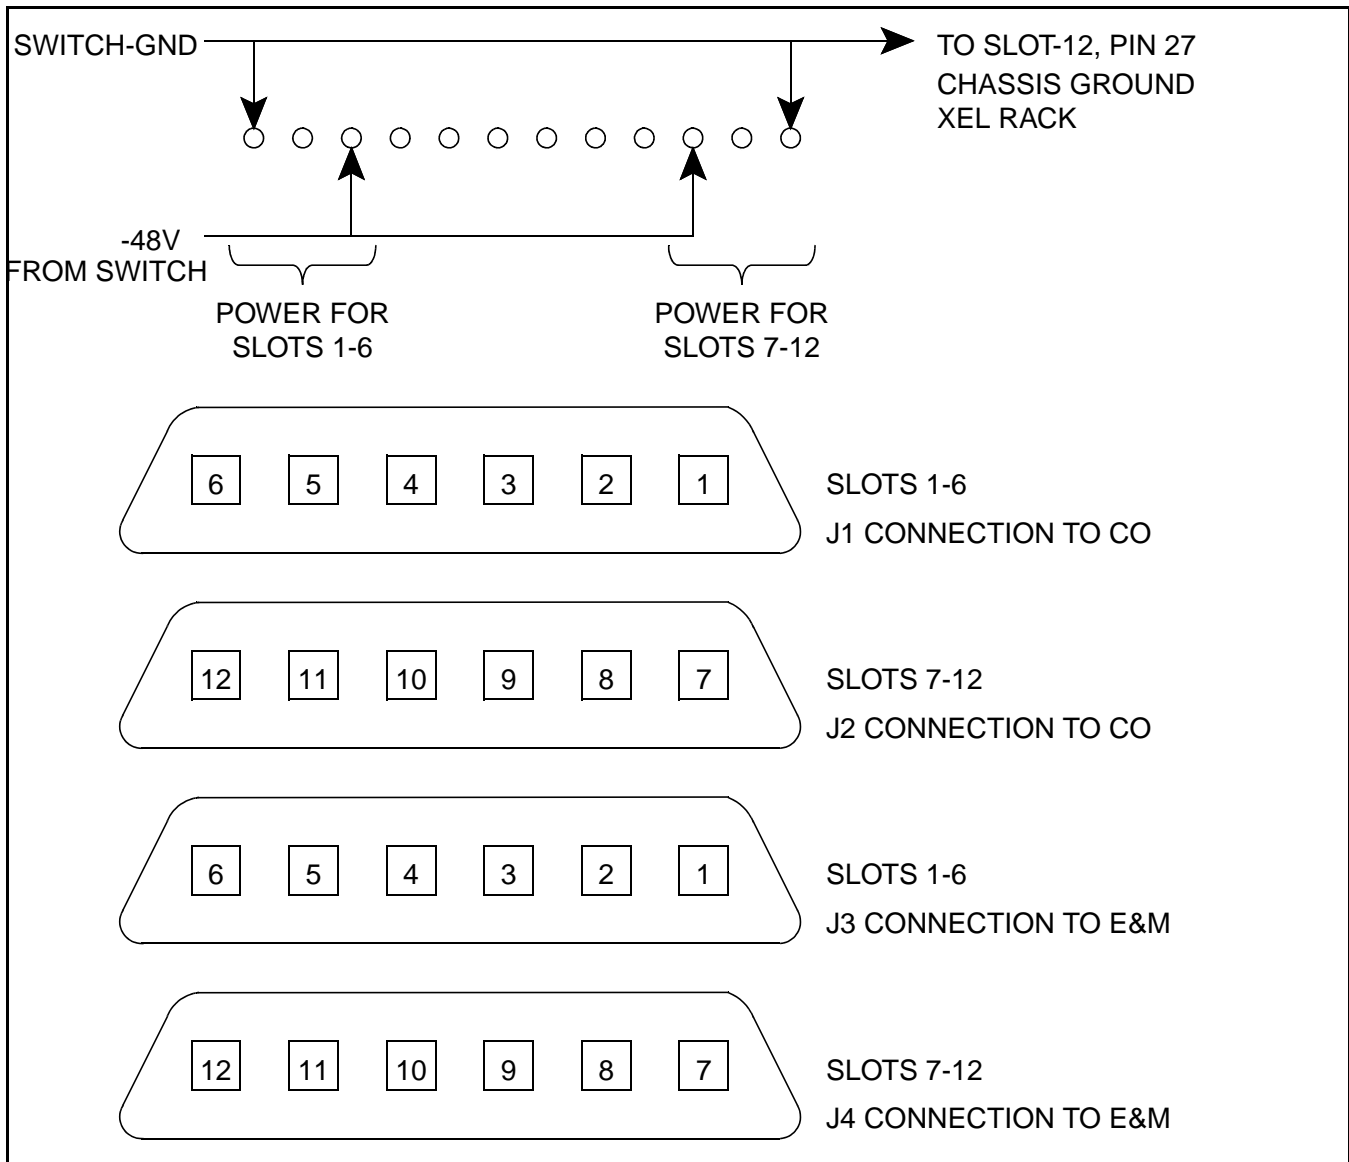

Figure 14-24 XEL TERMSET RACK (REAR CLOSE-UP)
Set up the equipment shown in Figures 14-24, 14-25 and 14-26.
1. Ensure that the jumpers have been installed on the backside of the XEL rack, where the power plug attaches (see Figure 14-24).
2. Ensure that there is a connection from Slot-12, pin 27 to the power connector ground pin (see Figure 14-24).
4. The XEL Rack requires -48V DC from the Switch. See Figure 14-24 for wiring.